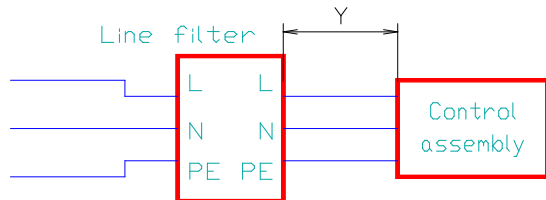
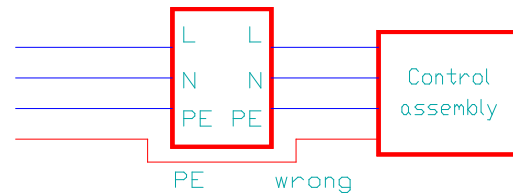

Fig. 1 Correct filtering of an assembly
Fig. 2 Incorrect filtering of an assembly
- Run all pole, neutral and ground conductors through the filter. (Fig. 1, Fig. 2,)